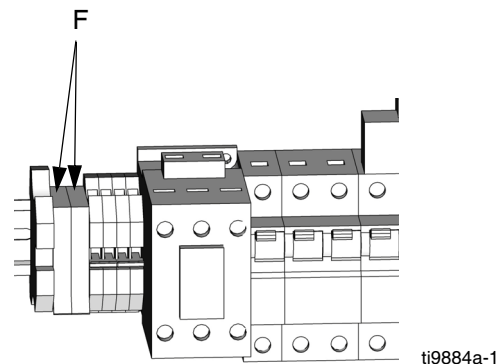

FIG. 7. Fan Fuses
3. Check fuses (F) at left of breaker module, FIG. 7. Replace if blown. If good, continue with step 4.
4. Refer to electrical diagrams. Disconnect fan wires from fuses (F).